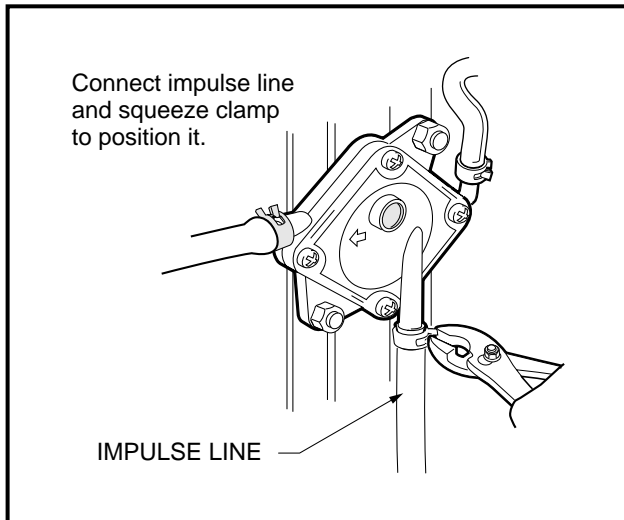

Figure 16-100 Impulse Line
30. Connect the impulse line to the fuel pump and secure it with the hose clamp **(Figure 16-100, Page 16-40)**.